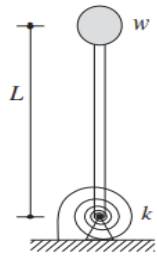

Fig 8.1
8. The system of Fig. 8.1 consists of a weight w attached to a rigid massless bar of length L joined to its support by a rotational spring of stiffness k . Derive the equation of motion. Neglect rotational inertia and assume small deflections. What is the buckling weight?